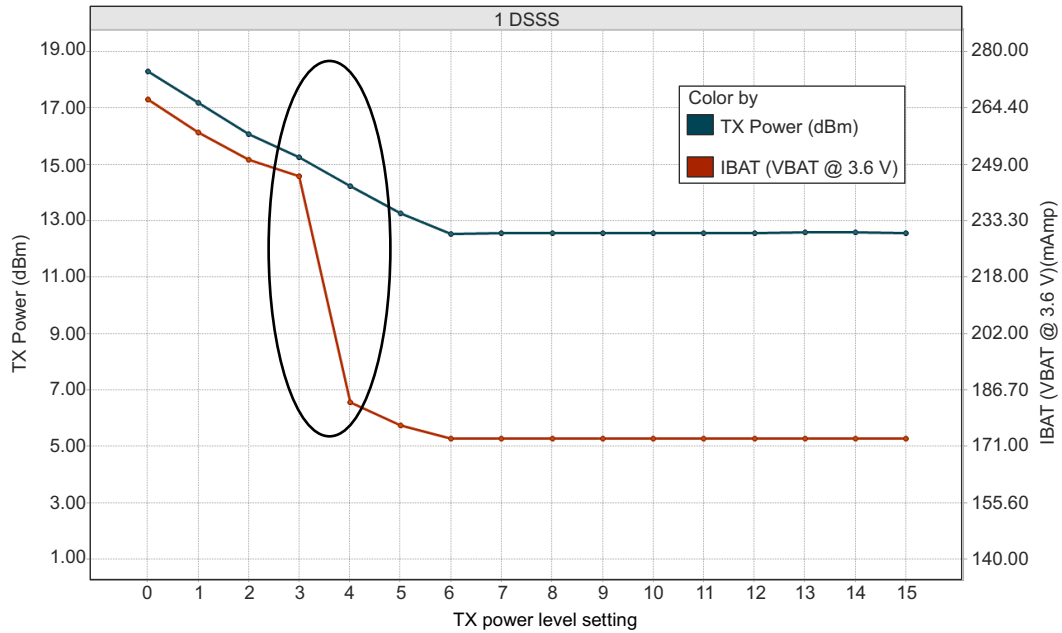
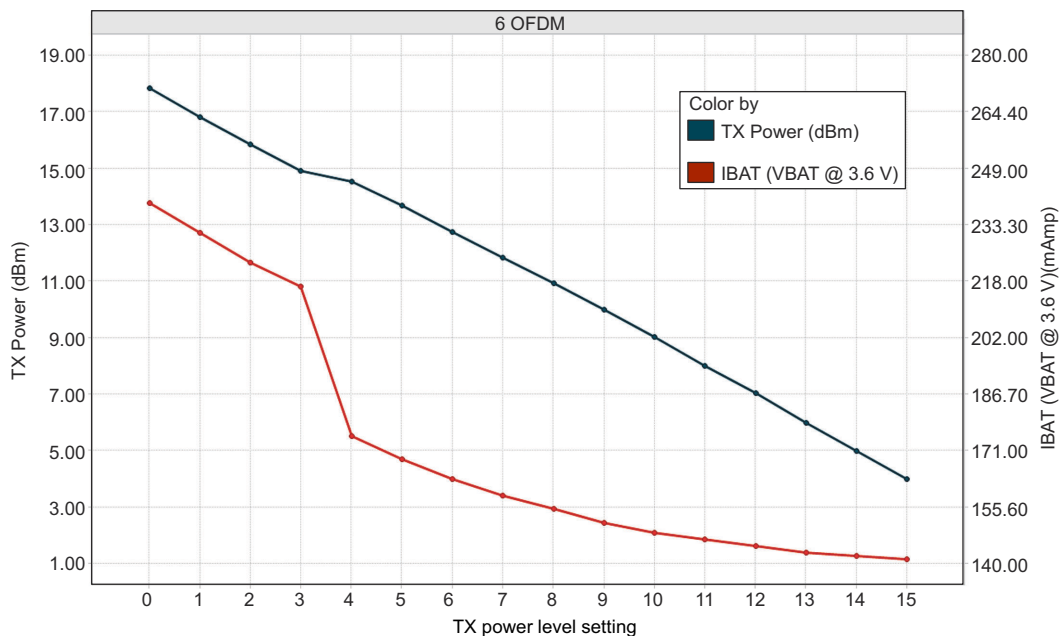
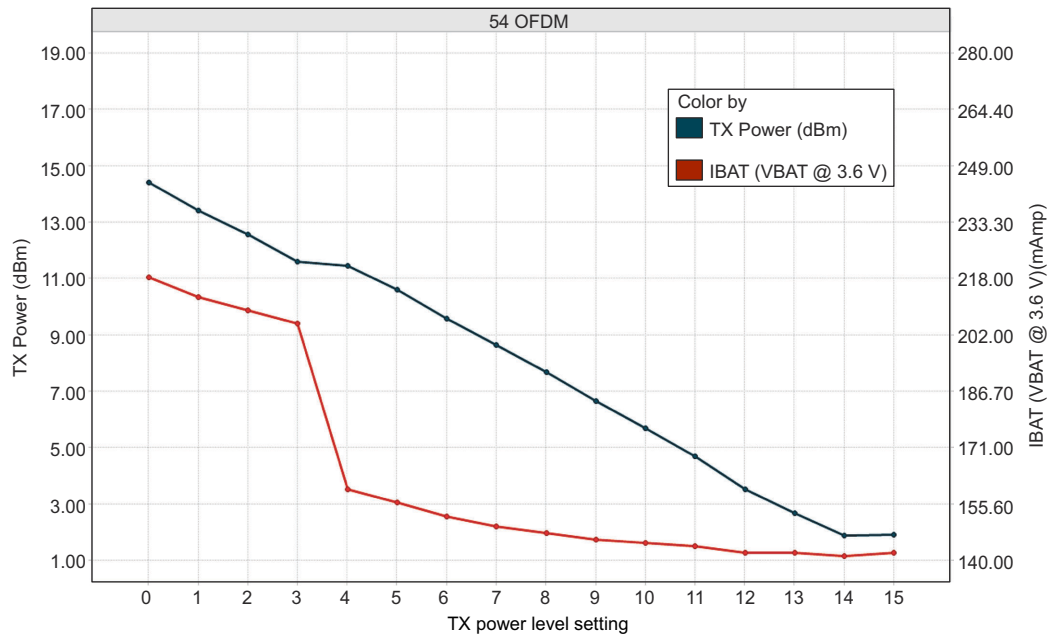

Figure 8-1. TX Power and IBAT vs TX Power Level Settings (1 DSSS)
Figure 8-2. TX Power and IBAT vs TX Power Level Settings (6 OFDM)
Figure 8-3. TX Power and IBAT vs TX Power Level Settings (54 OFDM)
- (1) TX power level = 0 implies maximum power (see Figure 8-1, Figure 8-2, and Figure 8-3). TX power level = 4 implies output power backed off approximately 4 dB.
- (2) The CC3135 system is a constant power-source system. The active current numbers scale based on the V_{BAT} voltage supplied.
- (3) The RX current is measured with a 1-Mbps throughput rate.
- (4) DTIM = 1
- (5) The complete calibration can take up to 17 mJ of energy from the battery over a time of 24 ms. In default mode, calibration is performed sparingly, and typically occurs when re-enabling the NWP and when the temperature has changed by more than 20°C. There are two additional calibration modes that may be used to reduced or completely eliminate the calibration event. For further details, see CC31XX CC32XX SimpleLink™ Wi-Fi® and IoT Network Processor Programmer's Guide.
- (5) The complete calibration can take up to 17 mJ of energy from the battery over a time of 24 ms. In default mode, calibration is performed sparingly, and typically occurs when re-enabling the NWP and when the temperature has changed by more than 20°C. There are two additional calibration modes that may be used to reduced or completely eliminate the calibration event. For further details, see CC31XX, CC32XX SimpleLink™ Wi-Fi® and IoT Network Processor Programmer's Guide.
Figure 8-1, Figure 8-2, and Figure 8-3 show TX power and IBAT versus TX power level settings for the CC3135 device at modulations of 1 DSSS, 6 OFDM, and 54 OFDM, respectively.
In Figure 8-1, the area enclosed in the circle represents a significant reduction in current during transition from TX power level 3 to level 4. In the case of lower range requirements (14-dBm output power), TI recommends using TX power level 4 to reduce the current.